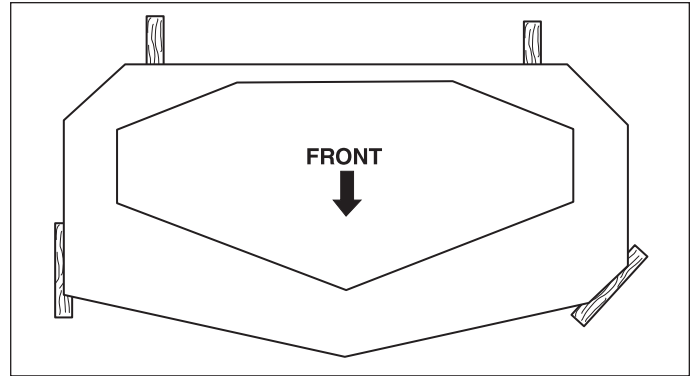

Figure 22. 2 x 4 Locations
3. Place 2 x 4 blocks under each corner of the mower deck with the 3-1/2" sides being vertical. Place a 1/4" (0,64 cm) thick spacer on top of the rear 2 x 4 blocks. See Figure 22.